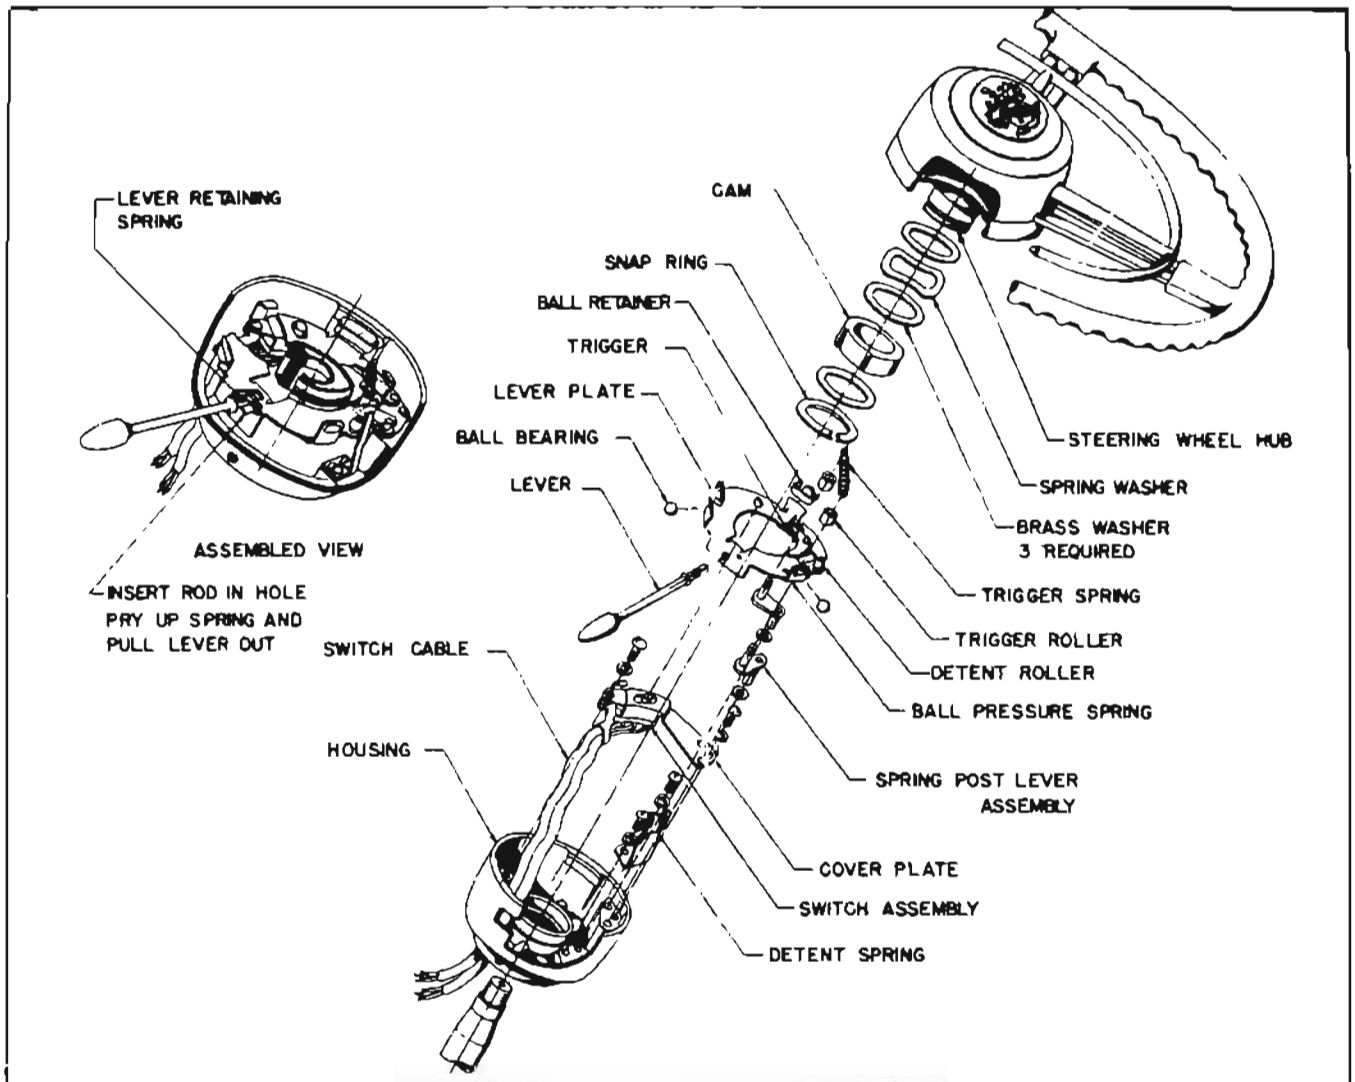

Figure 10-103—Direction Signal Switch—Disassembled
11. Install both spring post levers, making sure that flat washers are on lower pins between levers and switch cover. See figure 10-103.
13. Place one steel ball in the grooves in switch housing and pressure spring on lever plate, then slide the other two balls into their grooves. Install the two ball retainers at upper and right hand ball seats on lever plate. See figure 10-103. Lubricate the three balls lightly with petroleum jelly.